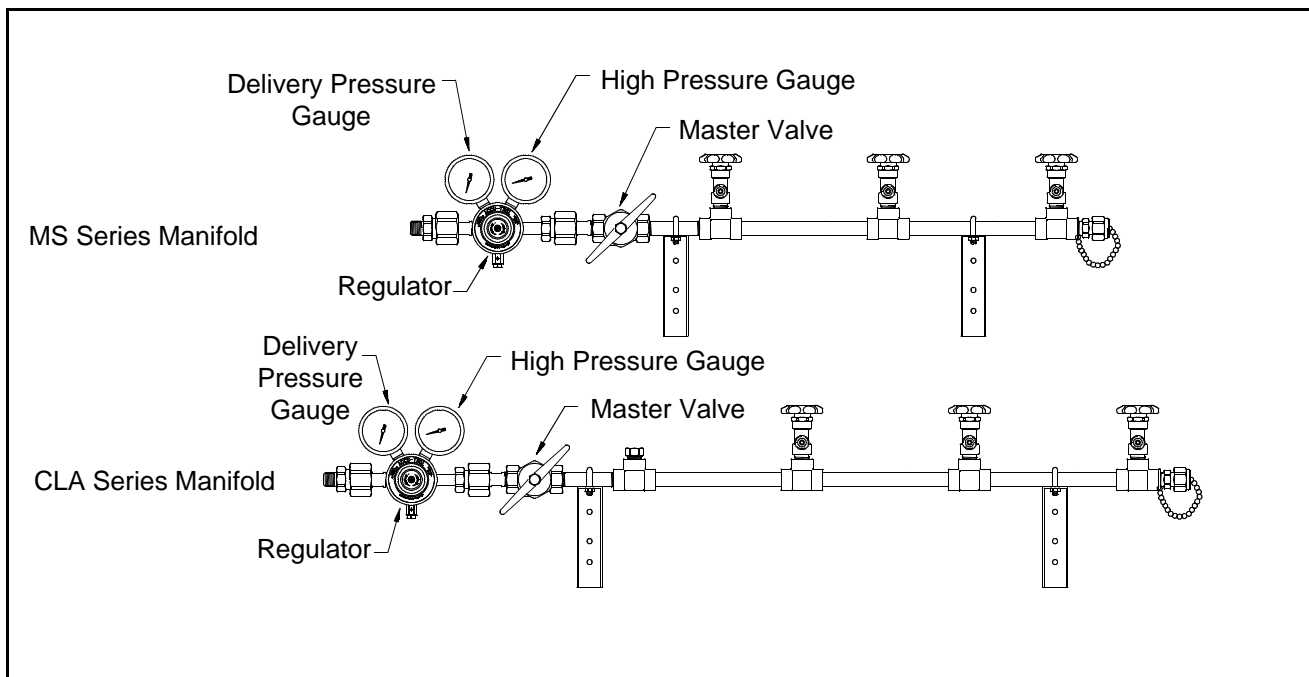

FIGURE 13
1. S-L-O-W-L-Y open the cylinder valves (turn counter-clockwise to open). The high pressure gauge will show the pressure of the bank of cylinders. (Figure 13)